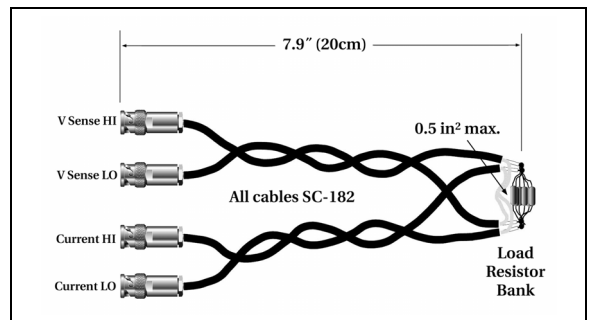

Figure 4
- ⁶ See Figure 4 for test configuration.